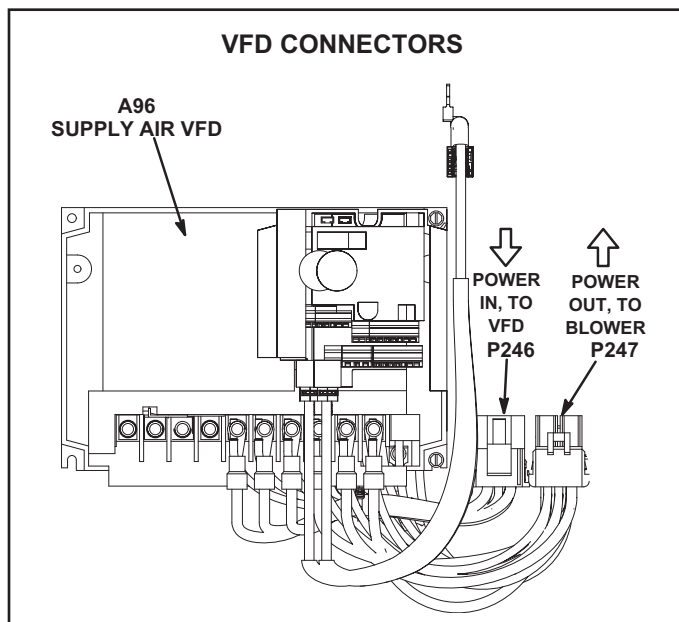

FIGURE 54
- 2 - Locate P246 and P247 connectors near the VFD. See FIGURE 54.